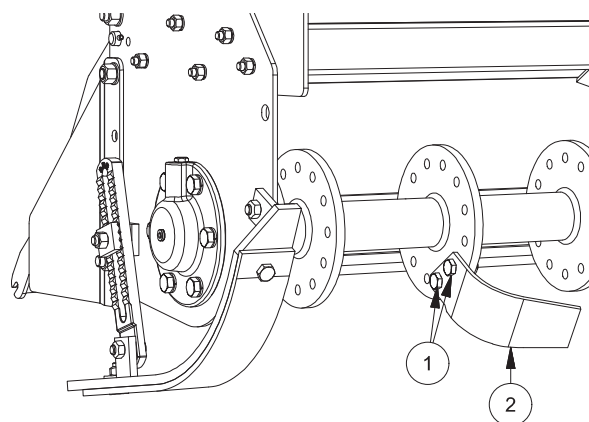

FIG. 24
- Loosen the two bolts (1, “Fig. 24”).
- Remove the hoe (2)